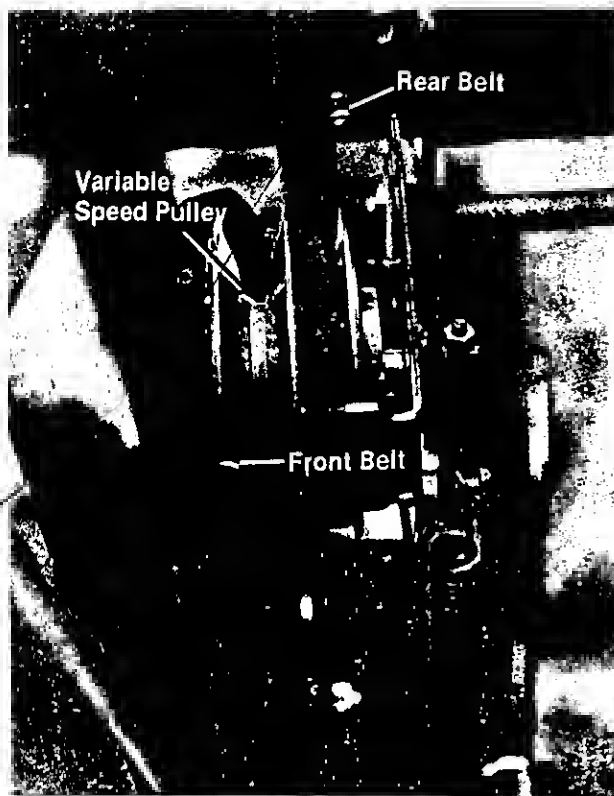

FIGURE 13.
7. Unhook the rear belt from the variable speed pulley. See figure 13.